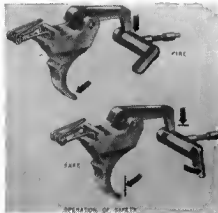

Figure 43. How the safety works.
a. *The Safety.* To see how the safety works, cock the hammer and rotate the safety downward to the safe position. As you rotate the safety downward the trigger notch in the safety rotates to the rear and in its place the solid portion of the safety is exposed to the forward end of the trigger. Attempt to squeeze the trigger. The solid portion of the safety now blocks the forward end of the trigger, preventing the trigger from moving. Since the trigger cannot move, the hammer remains stationary and the weapon does not fire (Fig. 43).